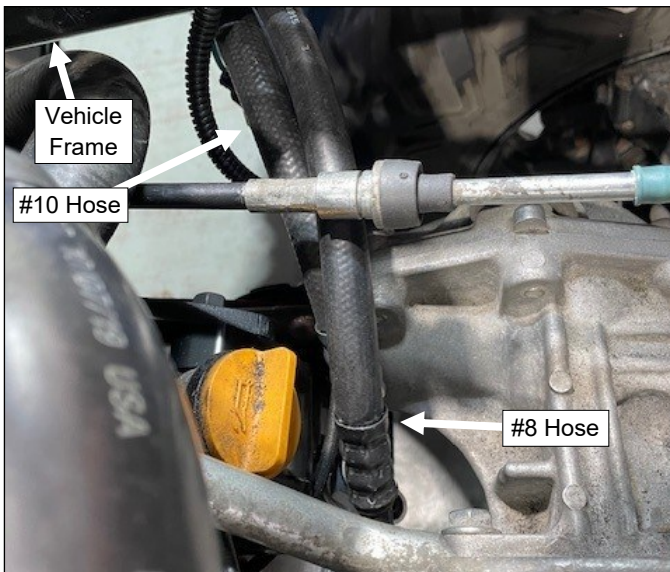

Fig. 6.4 Compressor Hose Connections
- 6.4 Install the larger #10 hose to the compressor. See fig. 6.4.
- 6.5 Install the smaller #8 hose to the compressor. See fig. 6.4.